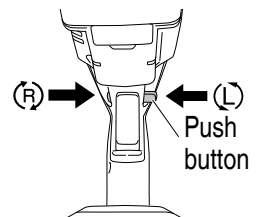

Fig. 11
6. Confirm the direction of bit rotation **(Fig. 11)**
The bit rotates clockwise (viewed from the rear side) by pushing the R-side of the push button. **(Fig. 11)**